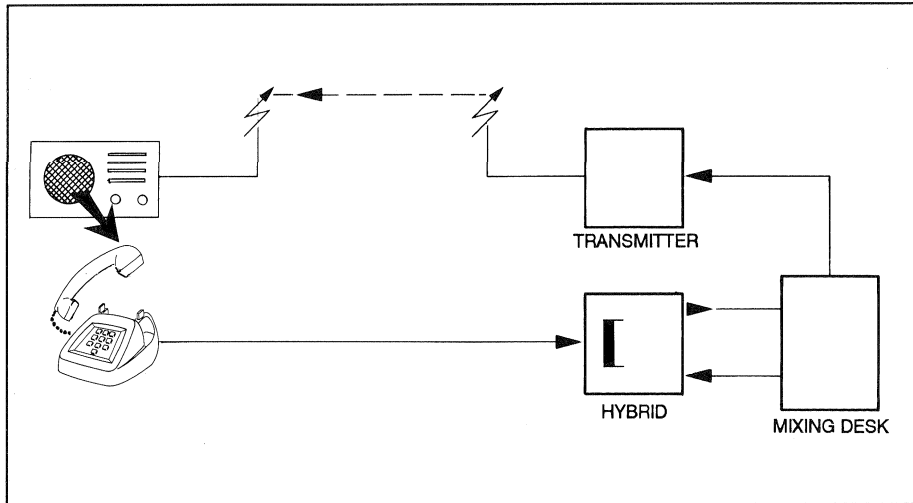

Fig. 5a Feedback via the radio set of the listener
- Feedback at the subscriber if the radio set and the handset are too close and/or if the caller has turned up the volume of his radio too high (Fig. 5a);